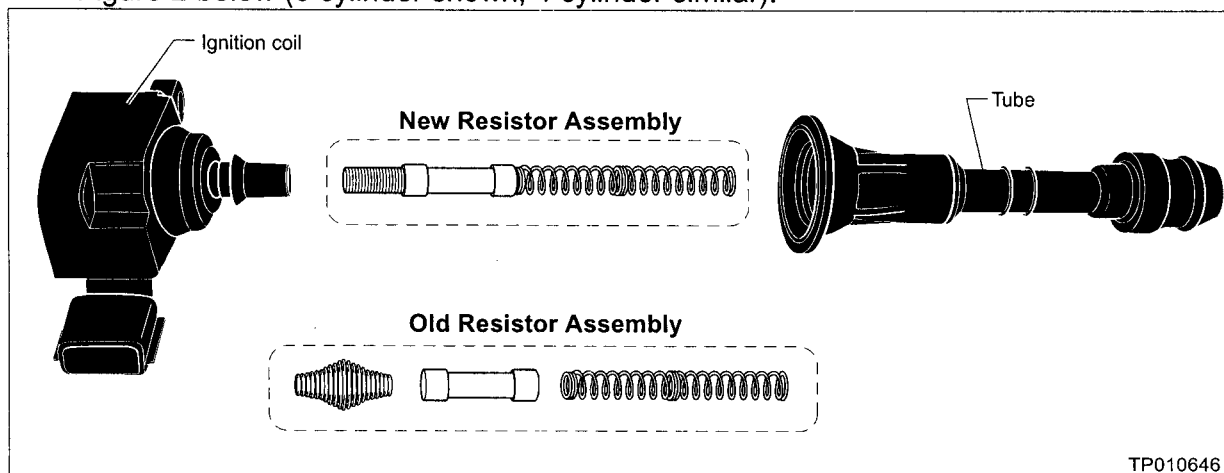

Figure 2
- B. Remove the old resistor assembly parts from the ignition coil tube and discard. Insert the new resistor assembly into the ignition coil tube in the orientation shown in Figure 2 below (6 cylinder shown, 4 cylinder similar).